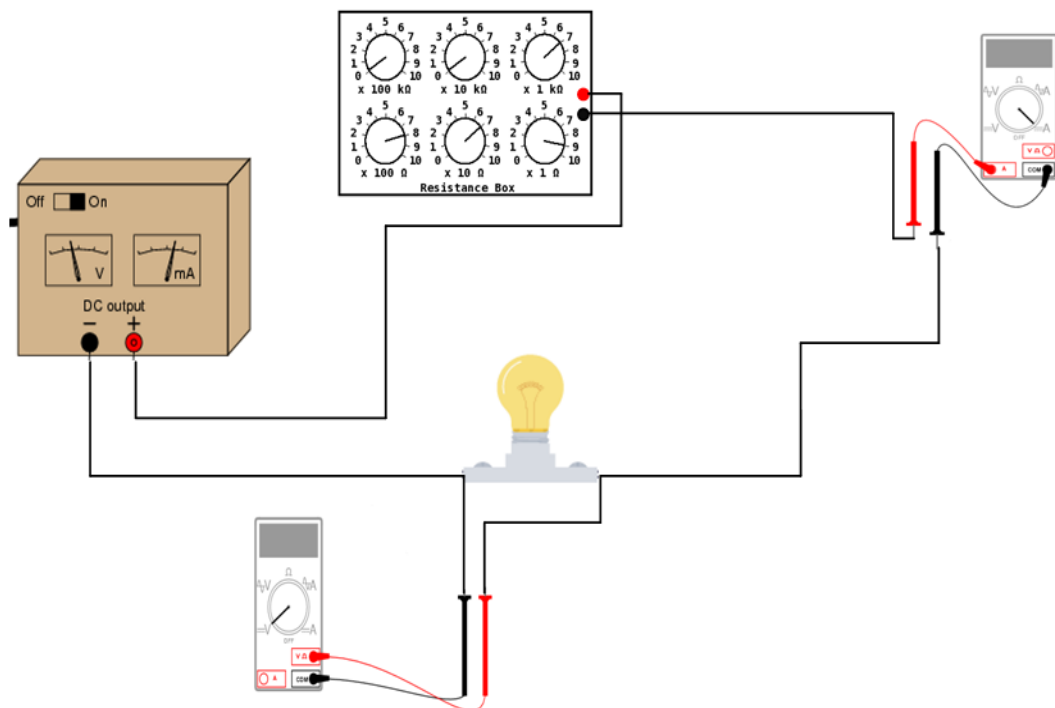

Figure4. The final connection of the circuit
4. Then, the voltmeter was connected to the lamp to measure the voltage across it (the lamp) as shown in figure4.